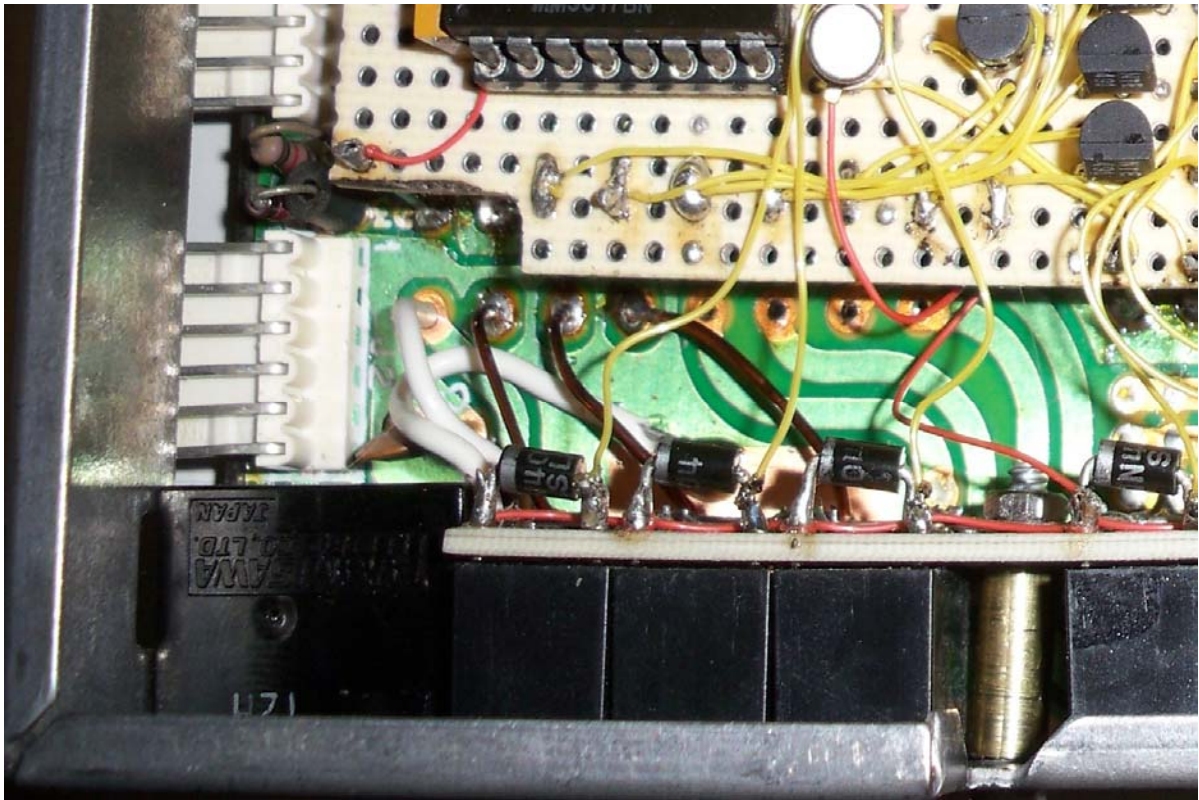

Figure 13. Close-up of wiring for points D,T S, and R of Board #2
- 11) Construct and install Board #2 in an analogous fashion to that of board #3. Note the different mounting requirements for the standoffs. This will result in a gap in the middle of Board #2 between relays and no screw at the end of one board. This is necessary because of the large hole in the module to accommodate the former rotary relay. The added extra complexity of this mounting is rewarded by the extra space available on this side of the module. Figure 13 shows a close-up of the wiring of points D, T, S, and R